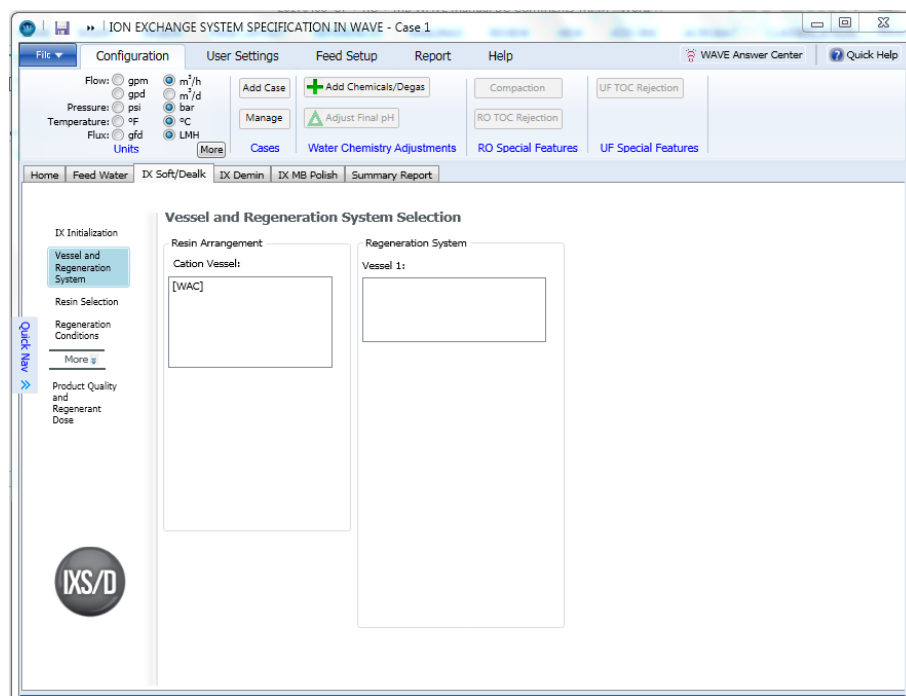

Figure 167. Vessel and Regeneration System. Resin Arrangement options for the Softening WAC (H) sub-process
WAVE will display the appropriate Resin Arrangement options depending on the IX process and sub-process selected. For example, if the option Softening WAC (H) sub-process was selected in the IX Sub-process section of the IX Initialization window (IXS/D process), only the option WAC will be displayed in the Resin Arrangement section. This is shown in Figure 167.